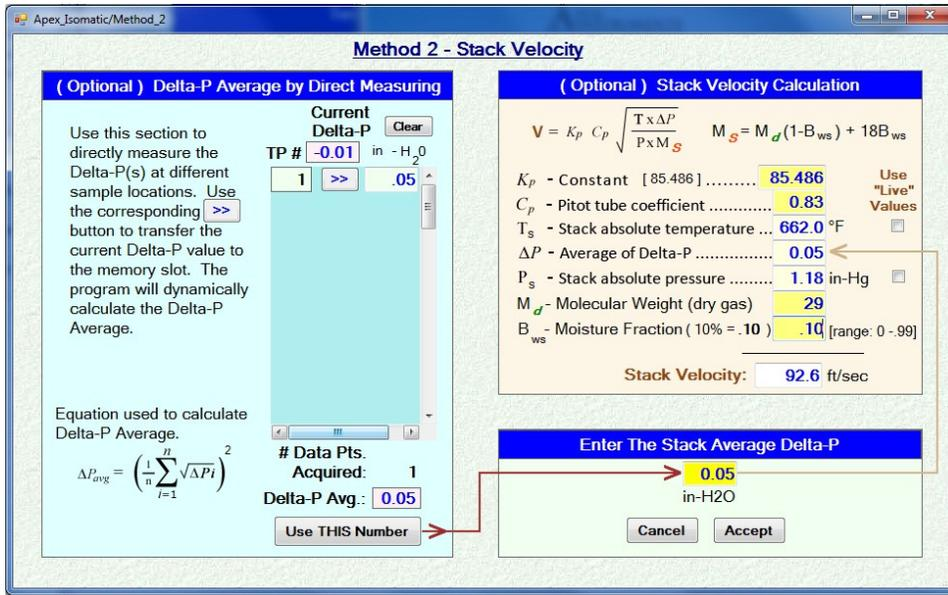

Figure 38 - Method 2 Menu Screen
- a) From the User Interface Main Menu, click the button to access the Method 2 Menu that is shown in Figure 38, below.